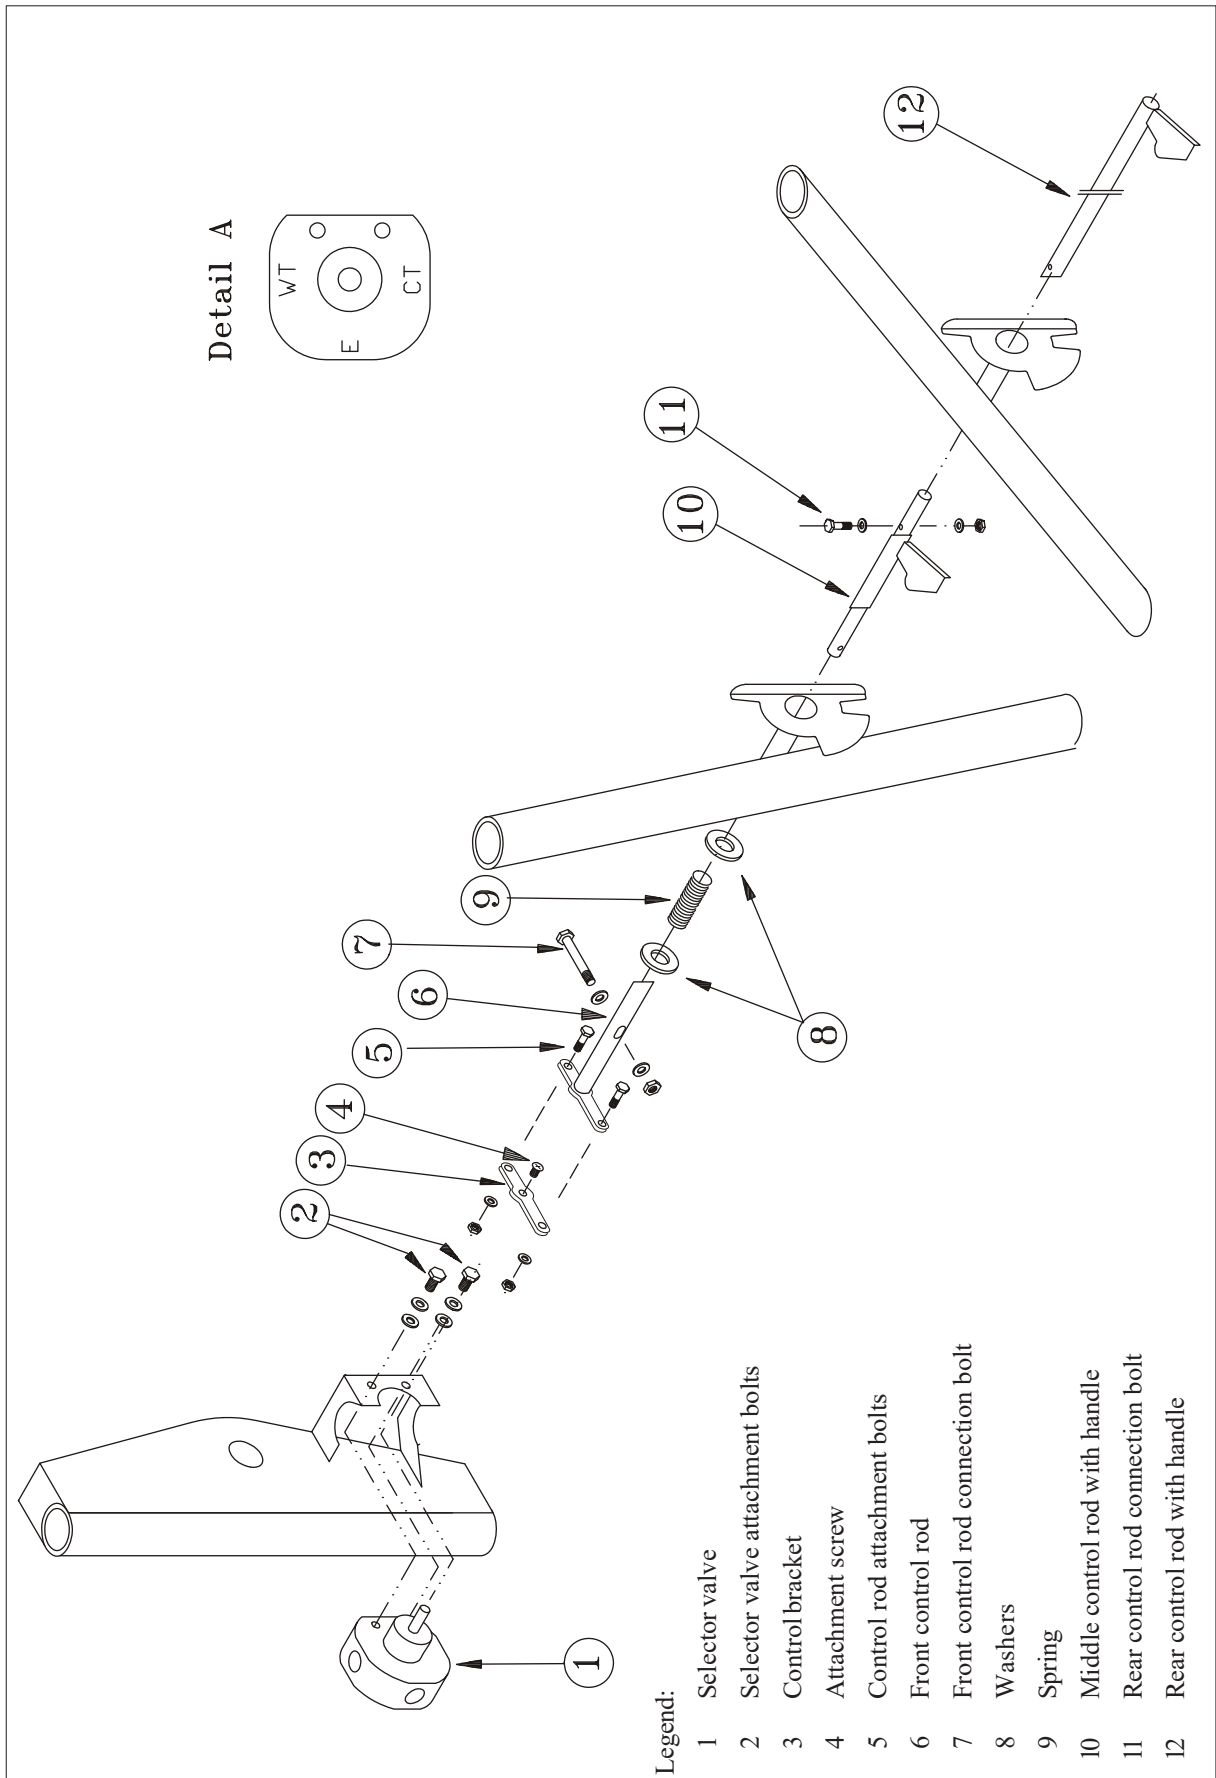

Figure 10
In addition to the engine driven fuel pump (6), an electrically driven auxiliary pump (5) having sufficient capacity to feed the engine at take-off power is fitted as a safety device against failure of the engine driven pump. The auxiliary pump switch is located on the rear instrument panel. A gascolator (3) is installed between the fuel selector valve and the auxiliary fuel pump at the firewall (engine side). A fuel selector valve of an Allen 6S122 type (1) is located at the right side of the front cockpit behind the main spar on a separate support. A control rod connects the selector valve to the control handles (2). The fuel selector valve is marked by the letters "WT" (Wing Tank), "E" (Engine), and "CT" (Center Tank) to ensure correct installation of fuel lines (Refer to "Detail A" of Figure 10).
(Refer to Figure 10)